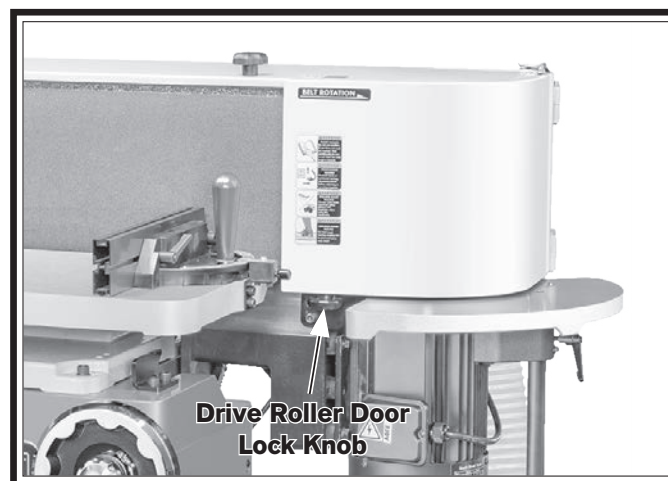

Figure 20. Location of drive roller door lock knob.
5. Loosen drive roller door lock knob (see Figure 20).